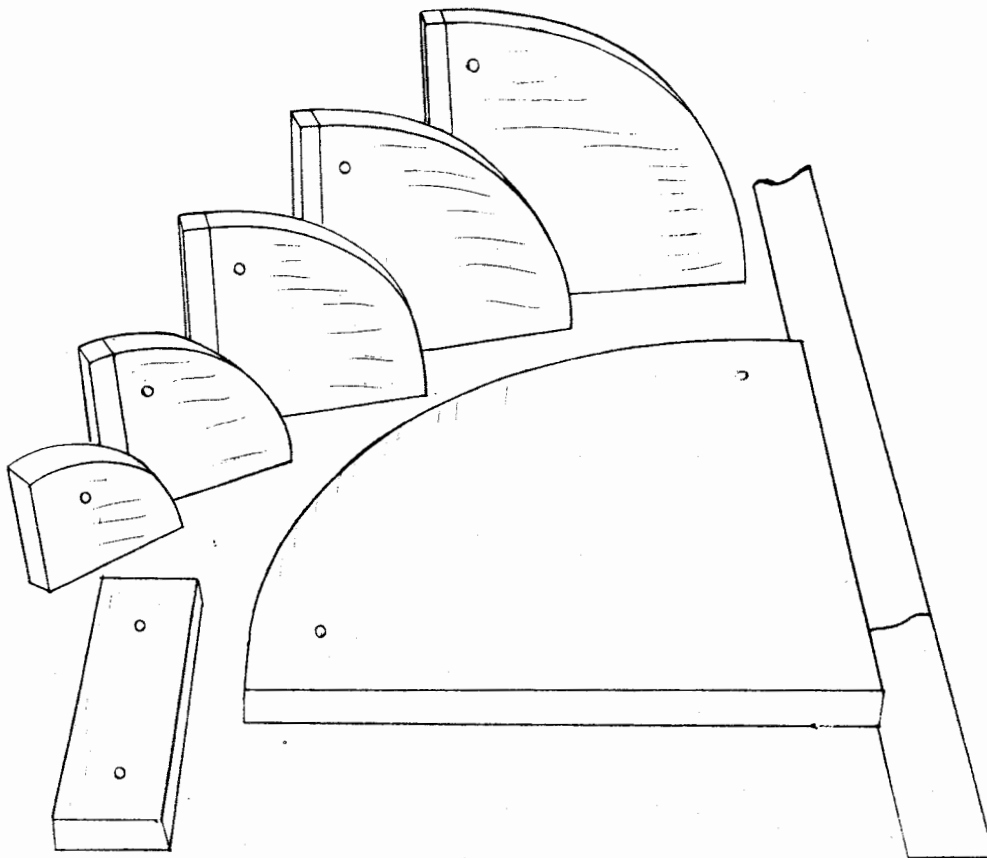

Figure 11-84. Bending Forms of Various Sizes
(11) A hardwood block form of the proper radius for the desired bend must now be made. Various forms are shown in Figure 11-84.
(12) After the line has been annealed, use care in handling the line. Do not lift the line without providing adequate support at several points or it will bend due to its own weight. If the line kinks, it will be ruined. The proper radius of the form for any bend is determined as follows: